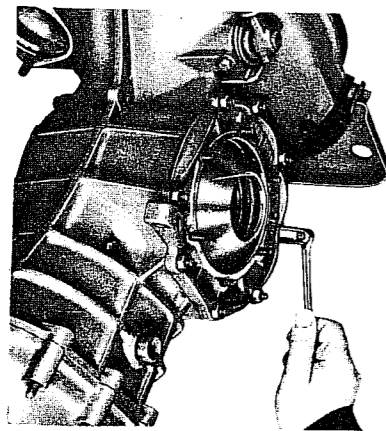

Fig. E.6. Removing the left-hand cover nut.
2. Remove the nuts which hold the left final drive cover on to the gearbox (Fig. E 6). Note that each has a plain and a spring washer.